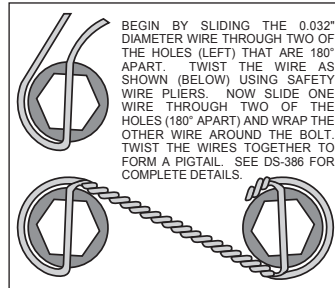

Figure 3. Safety Wire Diagram
- Orient the rotor (6) and the hat (7) as shown in Figure 1 and Photo 2. Attach rotor to hat using bolts (8) and washers (9). Using an alternating sequence, apply red *Loctite*® 271 to the threads, and torque to 155 **in-lbs**. For an added measure of security, the bolts may be safety wired using standard 0.032 inch diameter stainless steel safety wire as shown in Figure 3. Please refer to Wilwood's data sheet DS-386 for complete safety wire installation instructions.